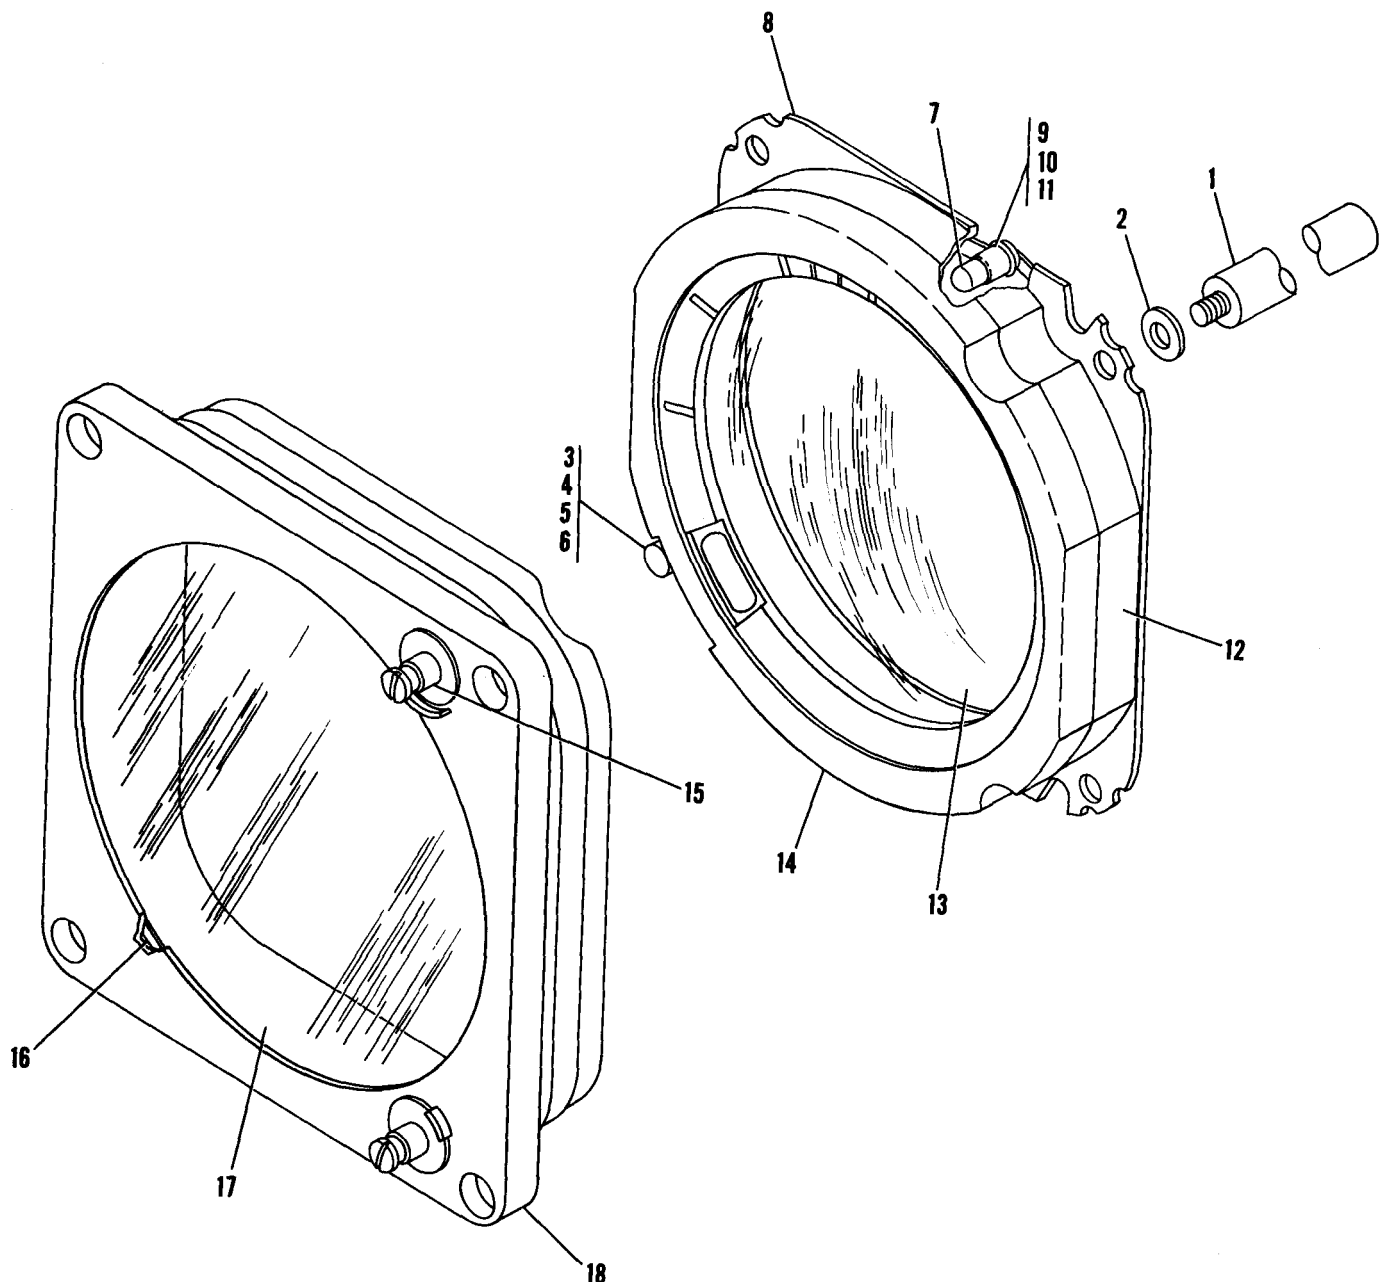

Figure 2-7. Front End Assembly.
(1) Install two resistors (15, fig. 2-7), glass cover (17), and retaining ring (16) in bezel (18).
(2) Test bezel subassembly at this point using a mixture of the filling medium (table 1-1), The leakage at 1 atmosphere pressure differential should not exceed 0.522 micron cubic feet per hour.
(3) Assemble dished lens (13) to mask (14) using adhesive (item 6, table 1-4) at four equidistant places.
(4) Install six terminal lugs (11) and bank dial scale (12).
(5) Assemble terminal board (8) to assembly using six screws (9) and lockwashers (10).
(6) Install incandescent lamp (7) in bank dial assembly and install flag (6).
(7) Install flag clamp (3) using two screws (4) and lockwashers (5).
(8) Install four flat washers (2) and four posts (1).